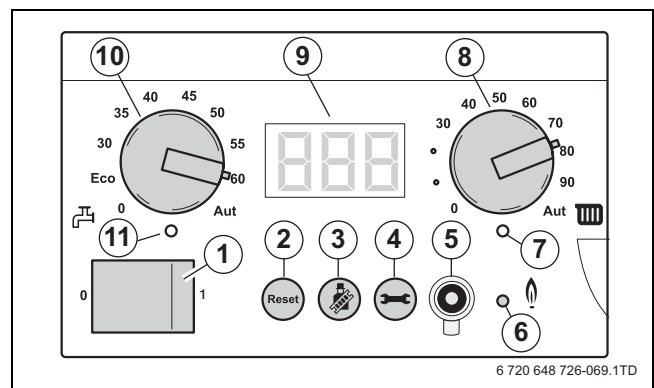

Fig. 90 BC10 basic controller
- ▶ Switch off the power supply to the heating system (→ fig. 90).
- ▶ Switch off the heating system by pressing the mains switch of the BC10 basic controller (→ fig. 90, [1]).
- ▶ Switch on the heating system by pressing the mains switch of the BC10 basic controller (→ fig. 90, [1]).
- ▶ Press and hold the "Chimney sweep" button (→ fig. 90, [3]) (approx. 2 seconds), until the dot in the right-hand bottom corner of the display (→ fig. 90, [9]) appears. See also table 10, "Flue gas test", page 42.
- ▶ After the "Burner" LED (→ fig. 90, [6]) has lit up wait for one minute until the boiler is burning at full load.
- ▶ Press the "Chimney sweep" button (→ fig. 90, [3]) to clear the reading. See also table 10, "Flue gas test", page 42.
- ▶ Switch off the heating system by pressing the mains switch of the BC10 basic controller → fig. 90, [1]).
- ▶ After the "Burner" LED (→ fig. 90, [6]) has lit up wait for one minute until the boiler is burning at part load.
- ▶ Press and hold the "Chimney sweep" button (→ fig. 90, [3]) (approx. two seconds), until the dot in the right-hand bottom corner of the display (→ fig. 90, [9]) appears. See also table 10, "Flue gas test", page 42.